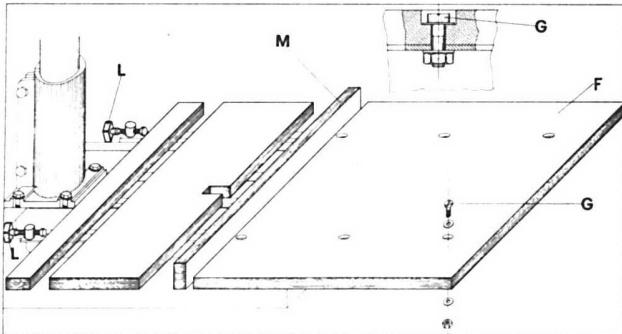

Fig. 5
2. Assemble the front board (F) fixing it with the screws (G) and relative washers with nuts (Fig. 5).
3. Assemble the fence (M) and the remaining rear boards, tightening the whole by means of the rear knobs (L).
2. Montare l'elemento anteriore (F) fissando con le viti (G) e le rispettive rosette con dadi (Fig. 5).
3. Montare la battuta (M) ed i restanti elementi posteriori, bloccando il tutto mediante i pomi posteriori (L).
**Important!** Before using machine place guide fence in position (A) for normal operations. For ripping wide panels use guide fence position (B). To locate guide fence where needed, simply loosen thumb screws at rear (D).